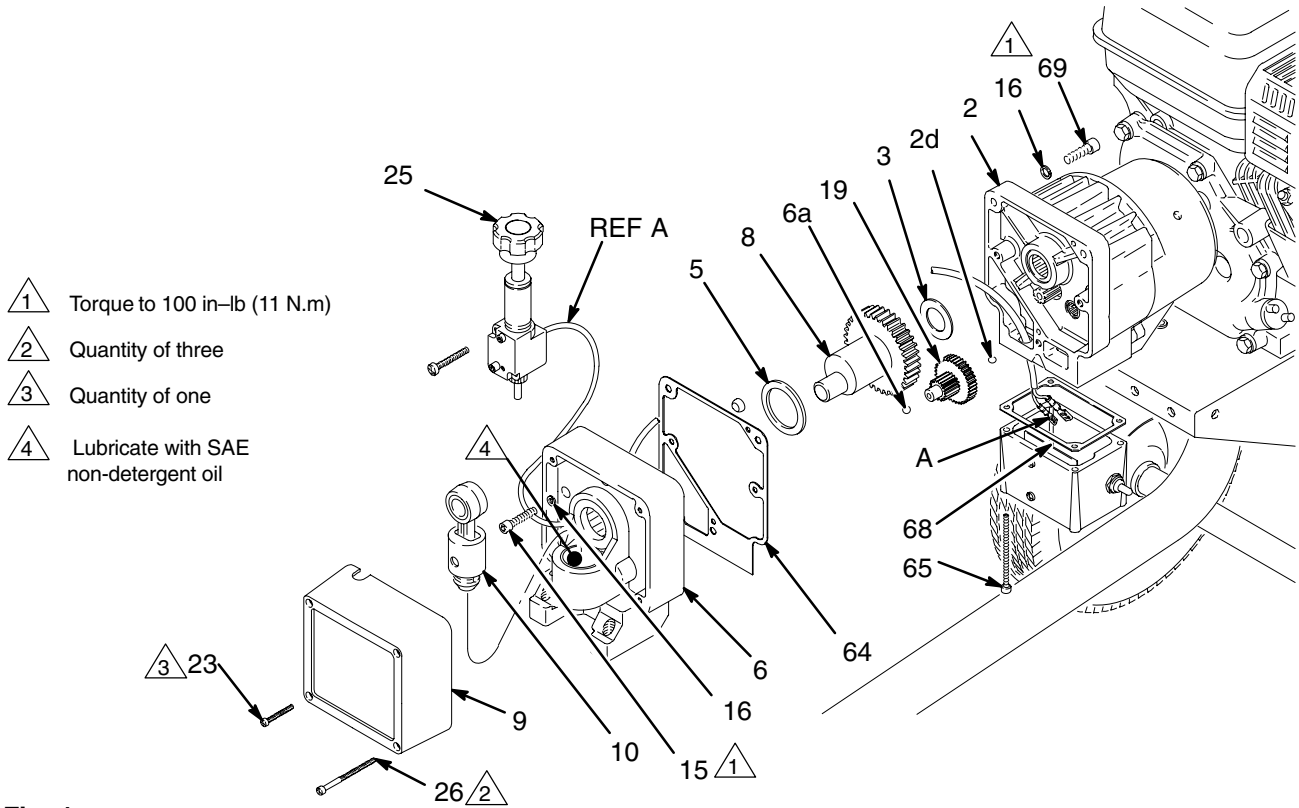

Fig. 1
3. Remove the pressure control (25). See page 3.
4. Remove the three drive housing screws and lock washers (15, 16). See Fig. 1 on page 2.
5. Remove the two pinion housing screws (69) and lock washers (16). See Fig. 1 on page 2.
6. Tap the lower rear of the drive housing (6) with a plastic mallet to loosen the drive housing. Pull the drive housing straight off the pinion housing.